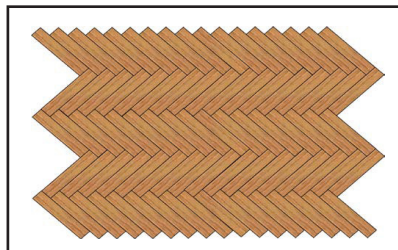

FIGURE 3
- Measure for true center on the herringbone pattern to establish working lines as shown in **Figure 3**.